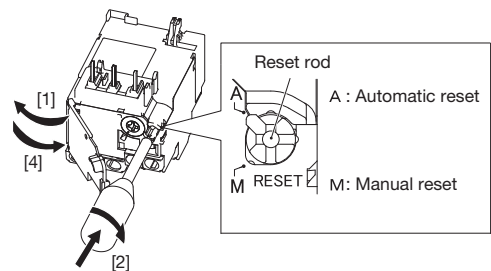

Fig. 2
##### (5) Switching from manual reset to automatic reset [Fig. 2]